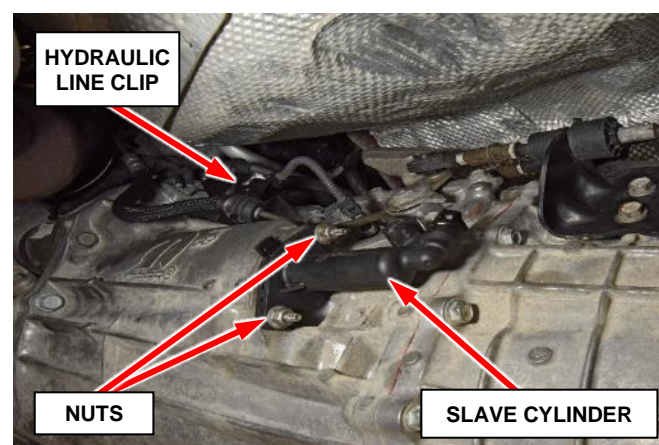

Figure 12 – Slave Cylinder
27. Remove the clutch slave cylinder hydraulic line clip bolt and the 2 nuts, then remove the clutch slave cylinder and position aside (Figure 12).
75. Insert the slave cylinder into the transmission, and install the nuts and bolt, and tighten to 17 N·m (13ft. lbs.) (Figure 12).